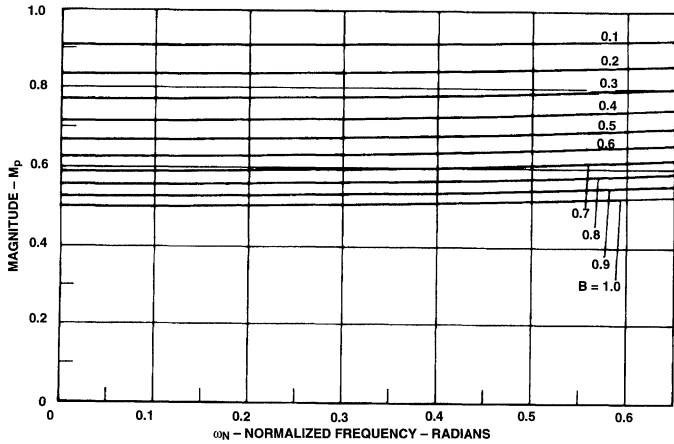

Figure 12. Magnitude Contribution of the Pole Term.
2. From Figure 12, read the value of the magnitude $[M_p(\omega_{NC}')]$ for the chosen value of B at the normalized desired gain crossover frequency (ω_{NC}') .
3. Determine the remaining phase lead $[P_z(\omega_{NC}')]$ which must be provided by the zero term (A) of the digital filter. This can be done by use of the equation: